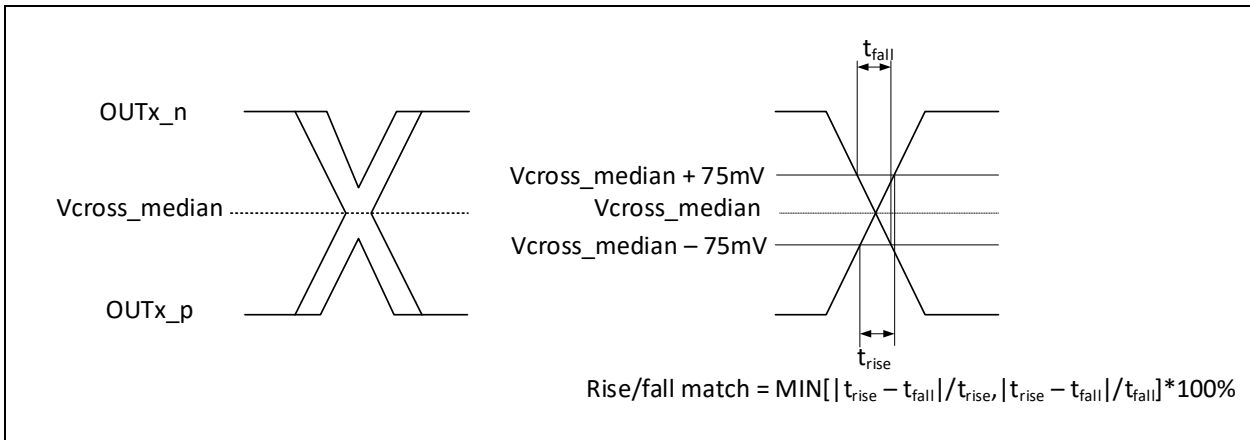

Figure 20. Single-Ended Measurement Points for Rise and Fall Time Matching
(12) Matching applies to rising edge rate for CK_x and falling edge rate for CK#_x. It is measured using a ±75 mV window centered on the median cross point where CK_x rising meets CK#_x falling. The median cross point is used to calculate the voltage thresholds the oscilloscope is to use for the edge rate calculations. The Rise Edge Rate of CK_x should be compared to the Fall Edge Rate of CK#_x the maximum allowed difference should not exceed 20% of the slowest edge rate. See Figure 20.